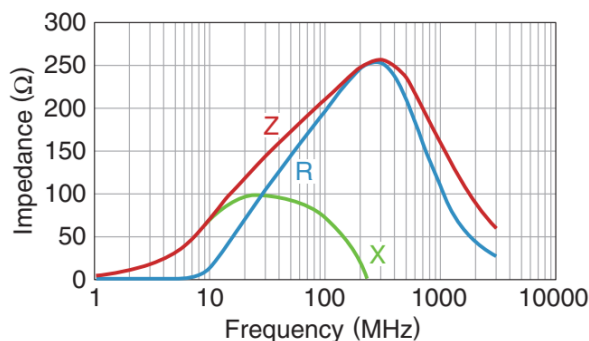

Figure 17: Typical Impedance Plot from TDK MPZ2012S221ATD25
The frequency characteristic is the second key factor. For example, Figure 17 shows a typical impedance plot from TDK MPZ2012S221ATD25. There are three lines: the overall impedance (Z), the inductive component of the impedance (X), and the resistive component (R).